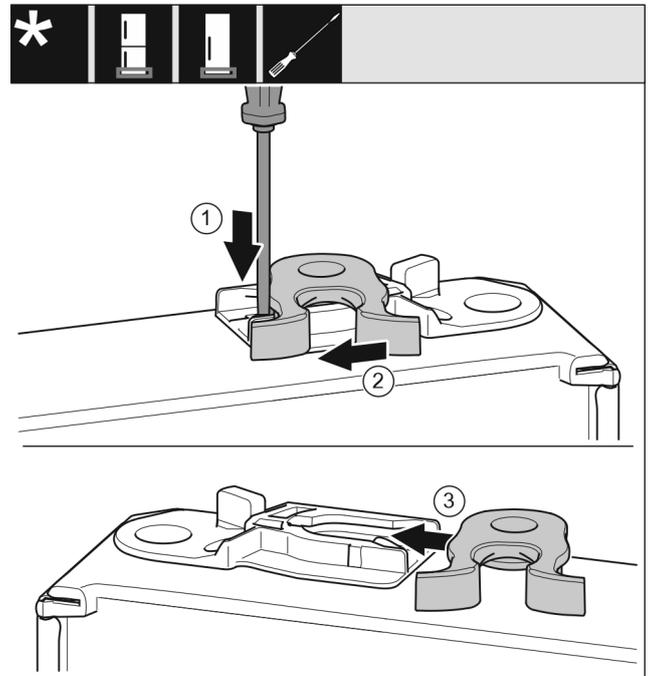

Fig. 17
- Push the lug downwards with a slotted screwdriver. Fig. 17 (1)
- Pull the door latch out of the guide. Fig. 17 (2)
- Push the door latch into the guide on the other side. Fig. 17 (3)